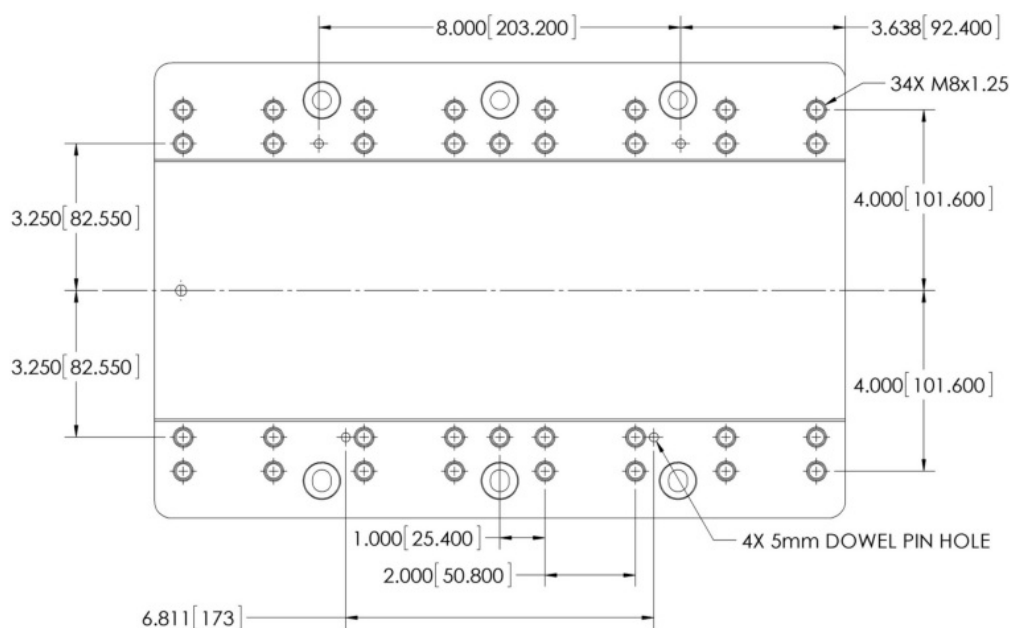

Figure 1. Carriage bolt hole pattern
The bolt pattern on the Carriage has been designed to facilitate process equipment installation. The Carriage has thirty-four (34) M8x1.25 mounting holes with a depth of 0.52 inch (13 mm) to provide secure attachment points. The mounting holes are spaced as shown in Figure 1. The Carriage also has two (2) 5 mm dowel pin holes to be used for process equipment alignment. (See Figure 1 for location) These dowel pin holes are oversized to allow the pins to be glued into place using Locate 609, or equivalent. DO NOT press pins into the AFD Carriage, as this will damage the Linear Rails.